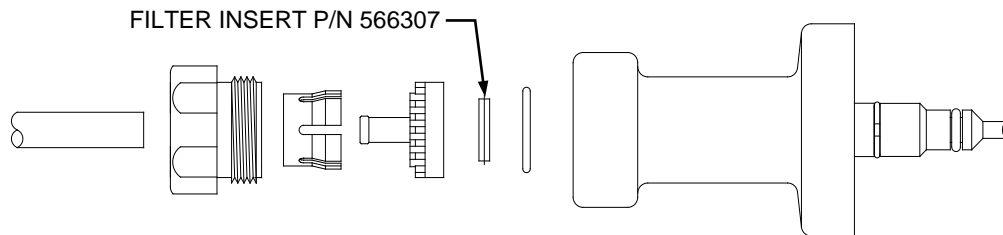

Figure 4 - Concentrate and Bicarbonate Connector Assemblies.
2. Filters in the Concentrate and Bicarbonate Connectors (See Figure 4).